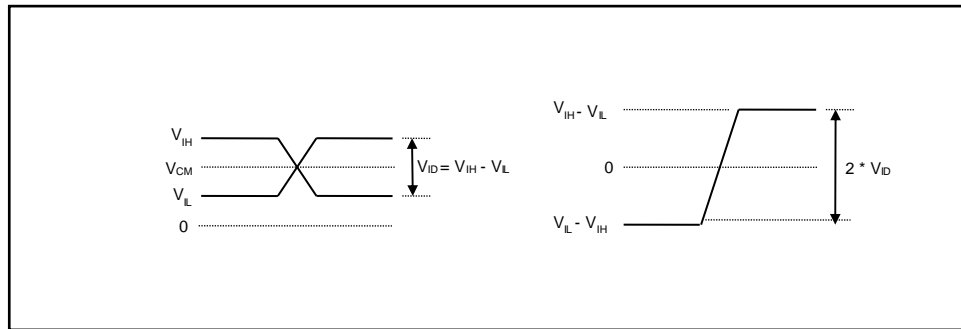

Figure 39. Differential Input Voltage Levels
**Input differential voltage is calculated as $V_{ID} = V_{IH} - V_{L}$ where V_{IH} and V_{L} are input voltage high and low respectively. It should not be confused with $V_{ID} = 2 * (V_{IH} - V_{L})$ used in some datasheets. Please refer to Figure 39.